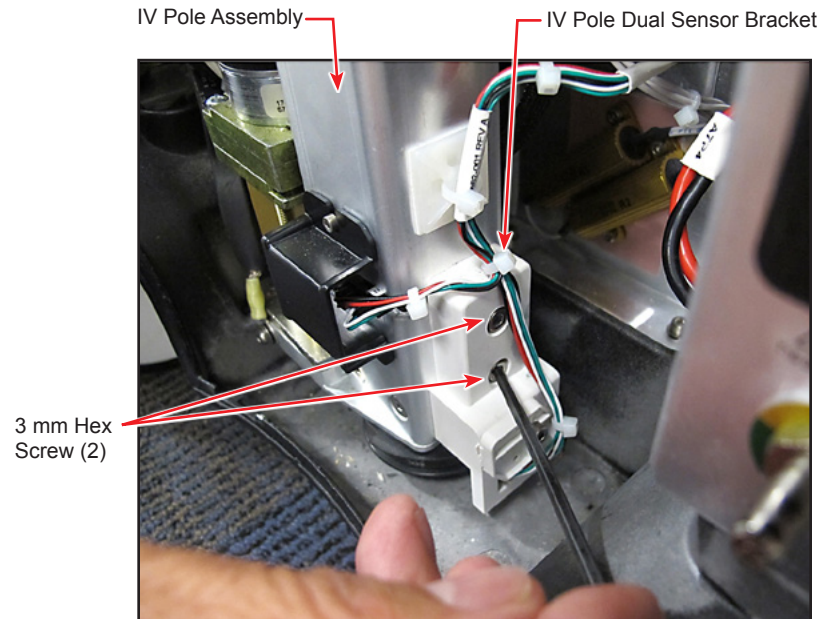

Figure 3-98 IV Pole Dual Sensor Bracket Removal
- 70.2 Remove two 3 mm hex screws securing IV Pole Dual Sensor Bracket to IV Pole Base (see Figure 3-98) and remove from IV Pole Assembly.